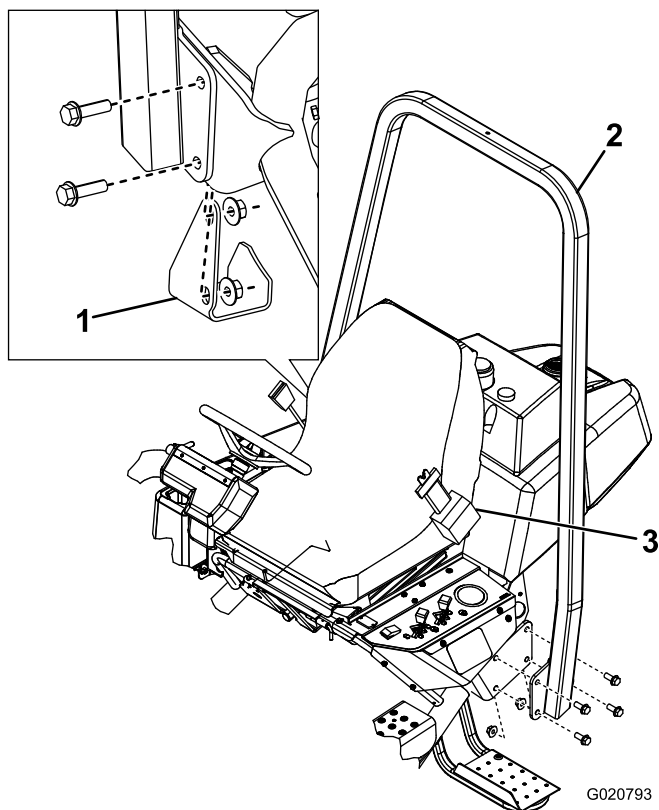

Figure 6
2. Lower the ROPS frame (Figure 6) onto the mounting brackets, aligning the mounting holes.